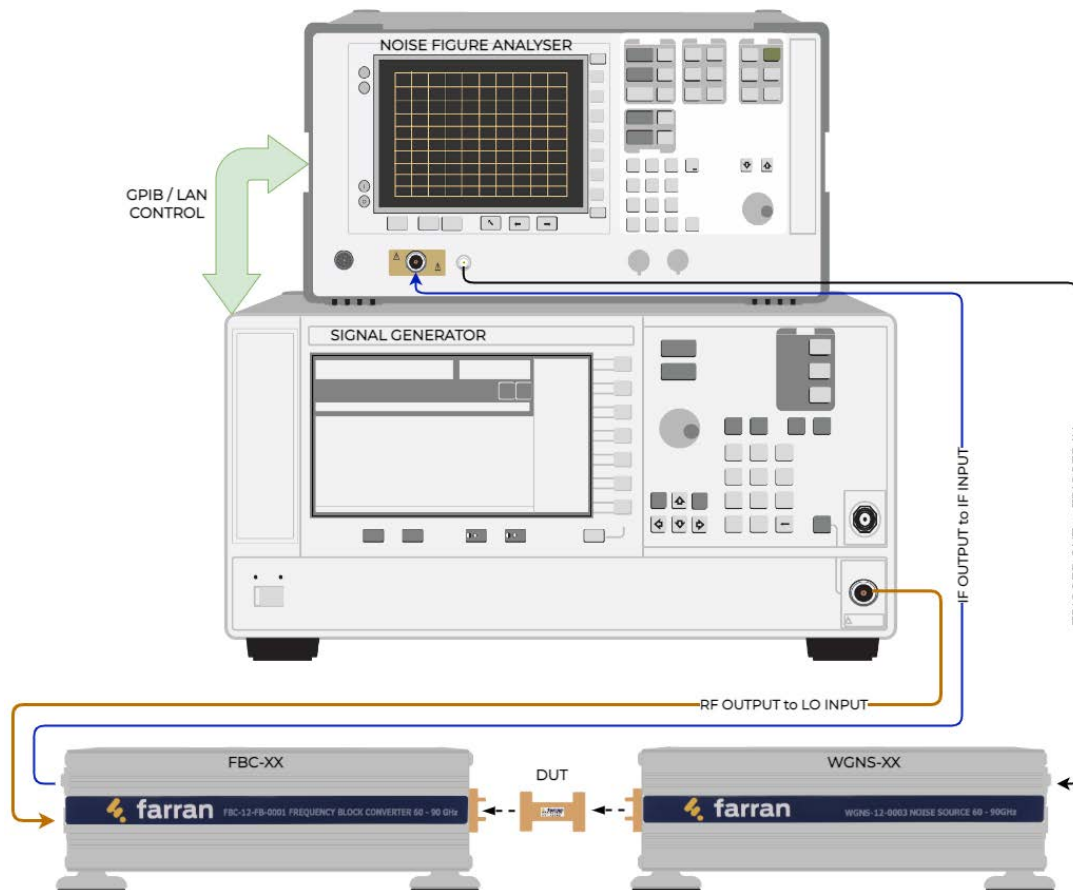

Figure 2.1: Typical Noise Figure Analyser measurement setup
Noise figure measurement methods vary for different applications. Figure 2.1 depicts a standard measurement configuration comprising an FBC-XX down-converter, WGNS-XX noise source, Agilent N8973A NFA and E8247C signal generator. The N8973A NFA generates a 28 V DC pulse signal to drive the WG noise source, which, in turn, generates noise to stimulate the DUT. The output of the DUT is then measured by the N8973A NFA.
- Ensure the Noise source (WGNS-XX) and its power supply are connected correctly as per Fig. 2.1.